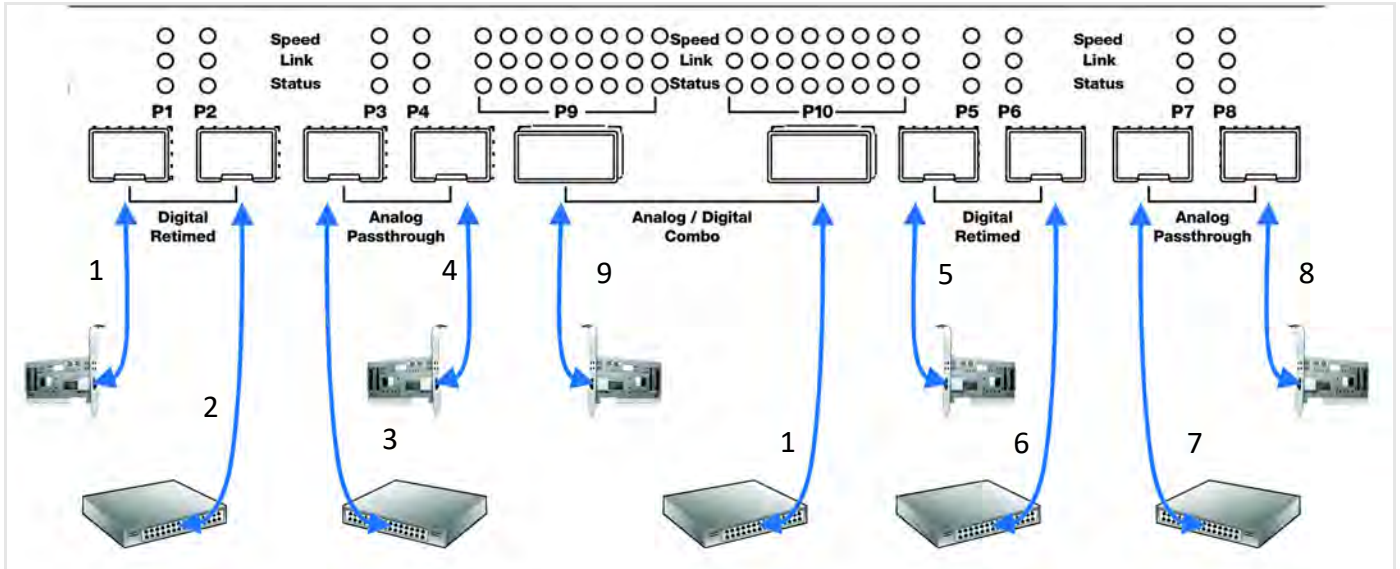

Figure 2.8: M648 Analyzer with SFP+ and QSFP-DD Connections
- 4. Connect your devices under test to port pairs P1/P2, P3/P4, P5/P6, P7/P8 and/or P9/ P10. See Figure 2.8.